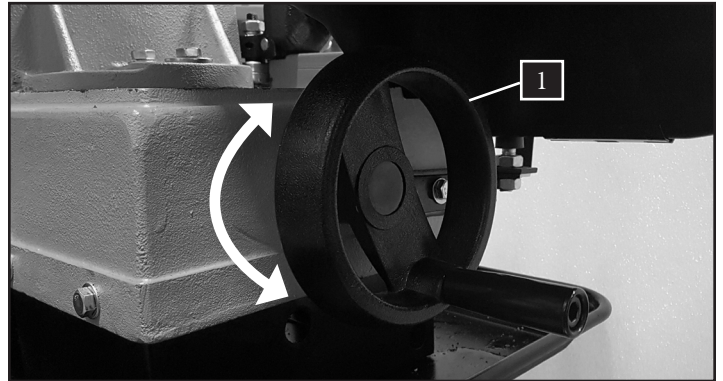

Fig. 12
1. Locate the vise adjustment wheel (Fig. 12 - 1) on the left side of the saw base.